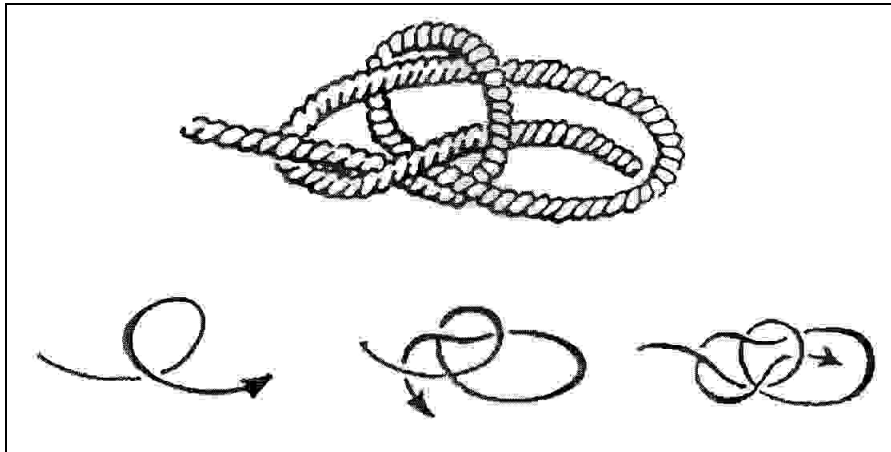

Figure 3-73. Bowline Knot
1. Tie a bowline knot (see Figure 3-73).